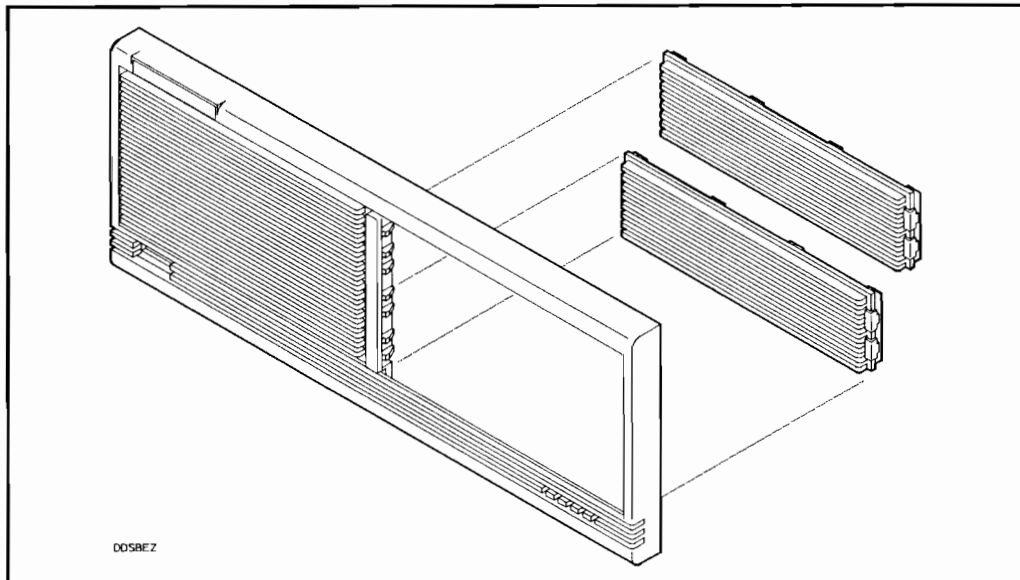

Figure 2-9. Removing the Front Panel Bezels
1. Remove the appropriate front panel bezels by pressing on both sides of a bezel with your thumb until the bezel pops out (see Figure 2-9).